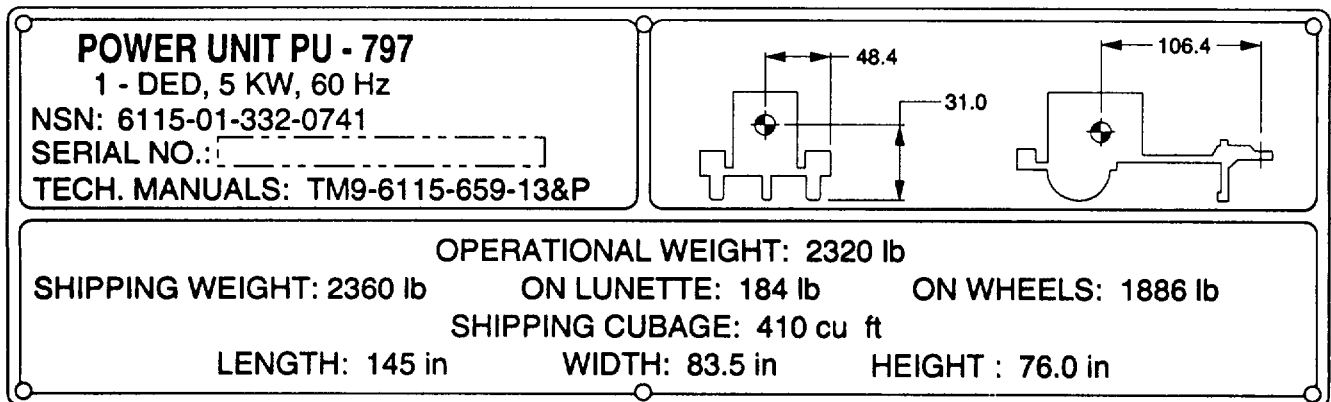

Figure 2-13. PU-797 Identification/Transportation Data Plate.
**2-6.3 PU-797 Identification/Transportation Data Plate.** Refer to figure 2-13. This plate is located on rear of curbside fender.